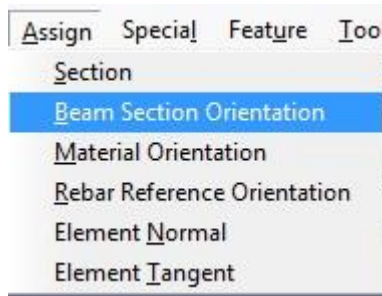

**Figure 14.** Edit Section Assignment Dialog Box
- The Edit Section Assignment dialog box will immediately appear (Figure 14).